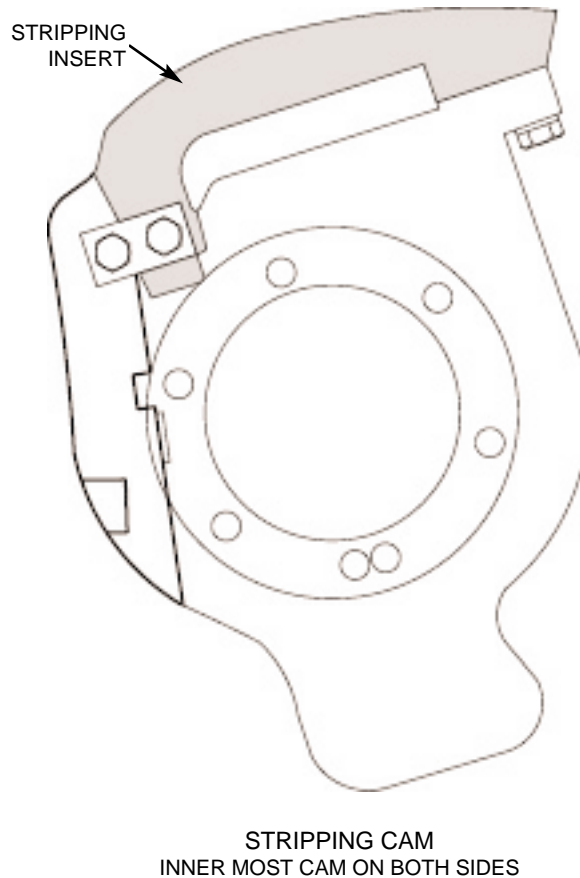

Figure 18.45 STRIPPING CAM INSERTS.
- 18.3.4 Remove the stripping cam insert from each side of the machine (see figure 18.45).